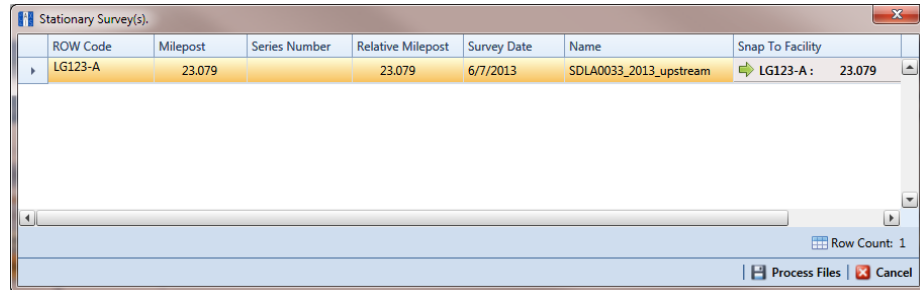

Figure 10-19. Process Files / Stationary Survey(s)
- 13 When the *Stationary Survey(s)* window opens, click  **Process Files** to automatically map data fields in the SDL survey with data fields in PCS Axis (Figure 10-19).